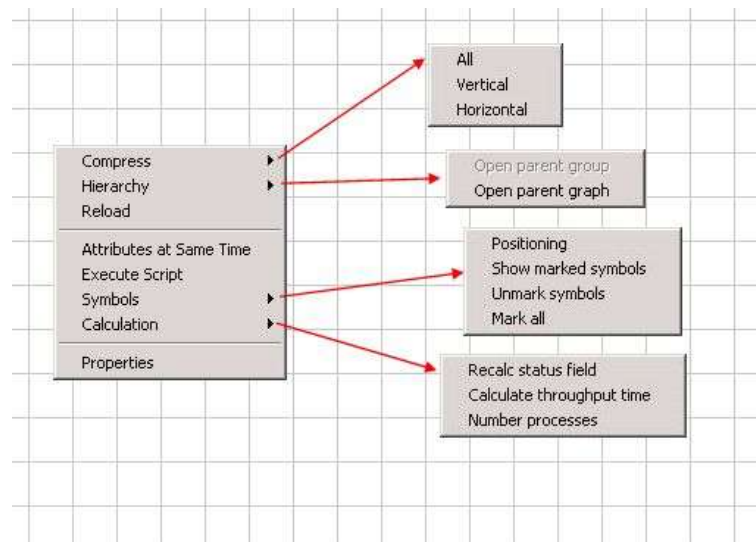

Figure 119: Right Mouse Button Functions, Click in the Process Graph
- 2) Open the contextual menu and select **Execute script**. Please refer to the Figure 119.